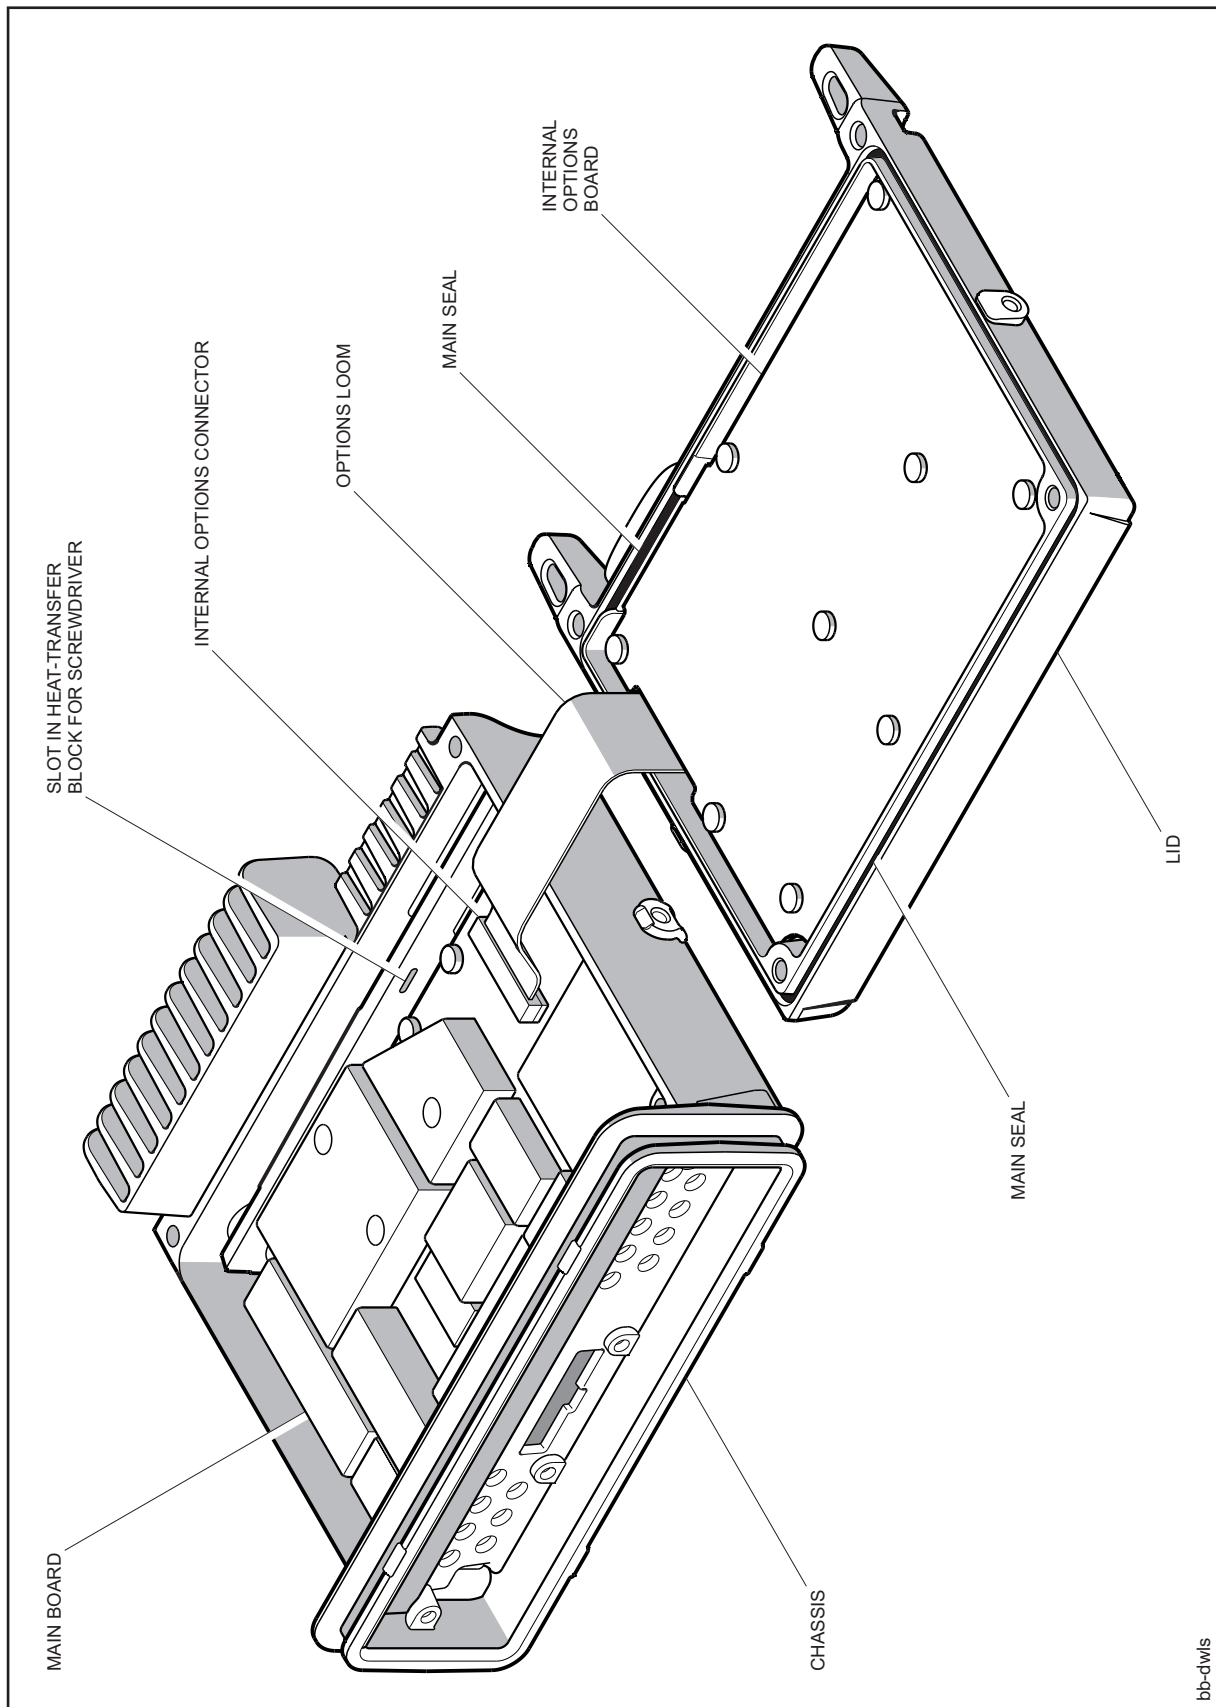
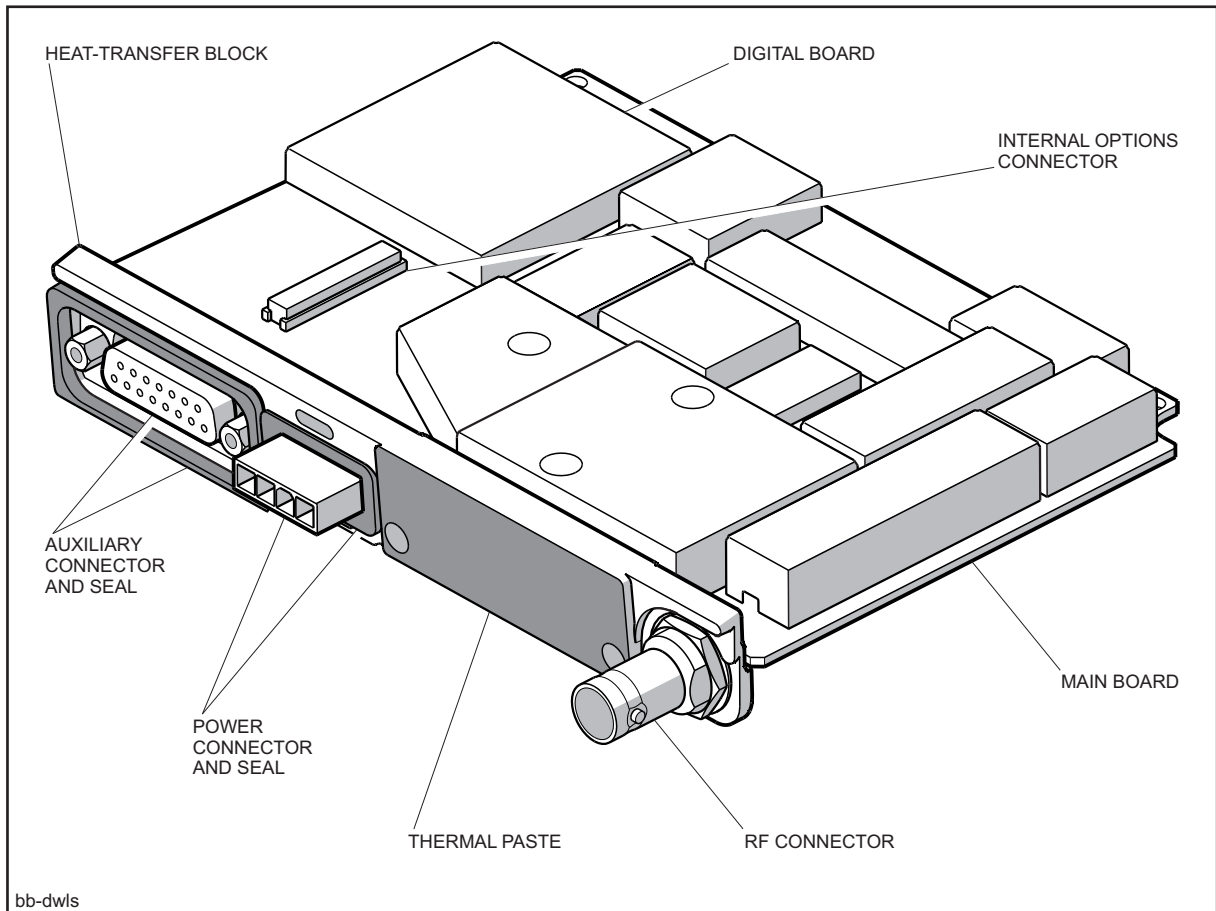

Figure 3.7 Illustration of the lid removed from the chassis of the radio body, with an options board installed in the lid
Figure 3.9 The main-board assembly
4. Carefully remove the lid. If an options board is fitted, there will be an options loom connecting the main board in the chassis and the options board in the lid. If this is the case, place the lid next to the chassis as shown in Figure 3.7 and disconnect the loom.
5. Inspect the main seal in the lid for any sign of deformation, cuts or tears. Refer to Figure 3.7. If the seal is damaged, replace it with a spare seal from Spares kit 2. The contents of the kit are listed in Table 3.2. The IPN of each spare part is given but, if applicable, not the issue number within the IPN. The latest issue of a particular part is always supplied.
5. The main-board assembly is now free of the chassis. Note the slot in the heat-transfer block shown in Figure 3.7. Insert the blade of a small (about 3 to 5 mm) flat-bladed screwdriver in the slot. Tilt the screwdriver to lever up the front edge of the circuit board. Grip the edge of the board and pull out the assembly, but avoid the thermal paste on the heat-transfer block. The area coated with thermal paste is shown in Figure 3.9.
1. Thermal paste is required on the area of the heat-transfer block shown in Figure 3.9. This area constitutes the contact area between the main-board assembly and the chassis.
1. If an options board is installed in the lid of the radio body, reconnect the options loom to the internal options connector on the main board. This is best done with the lid placed next to the chassis as shown in Figure 3.7.